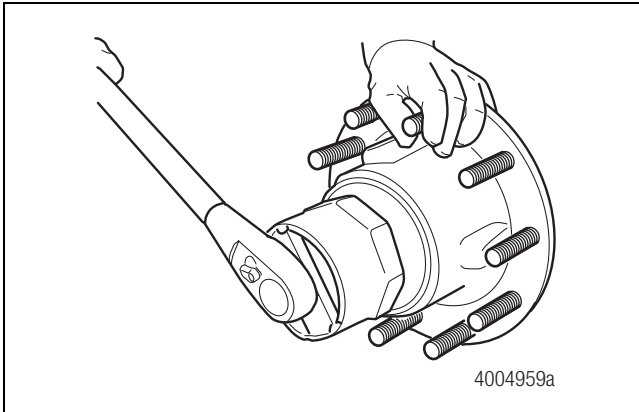

Figure 3.35
- Install the hubcap and tighten it to 50-75 lb-ft (68-102 N•m). Figure 3.35.